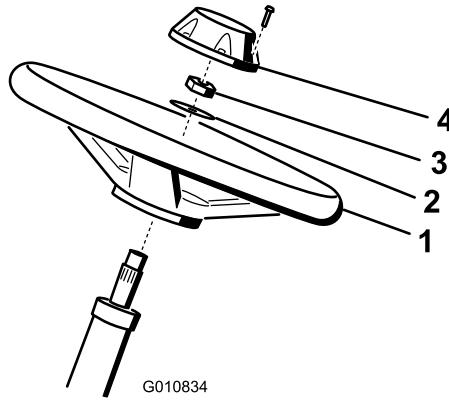

Figure 4
1. Slide the steering wheel onto the steering shaft (Figure 4).
2. Slide the washer onto the steering shaft (Figure 4).
- Secure the steering wheel to the shaft with a jam nut and tighten it to 27 to 35 N·m (20 to 26 ft-lb) (Figure 4).
- Install the cap to the steering wheel and secure it with a screw (Figure 4).